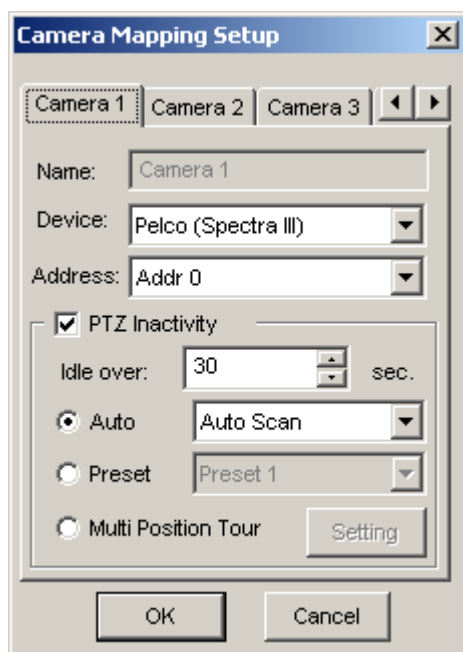

Figure 1-29 Camera Mapping Setup
Setup dialog box (Figure 1-29) appears.
1. Select **Multi Position Tour** on the Camera Mapping Setup dialog box (see Figure 1-29), and click the **Setting** button. This dialog box appears.